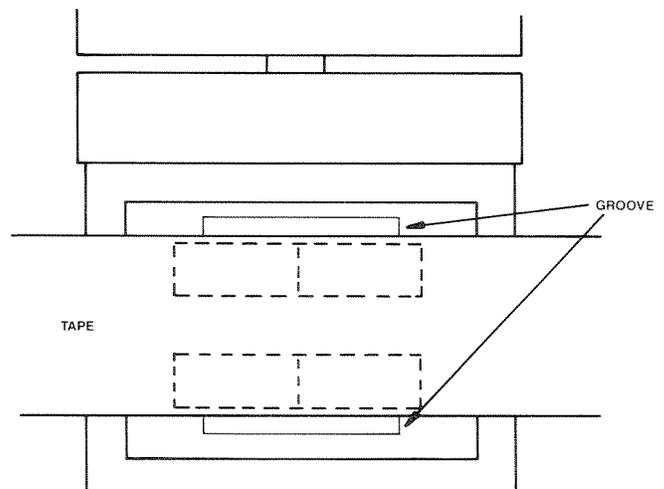
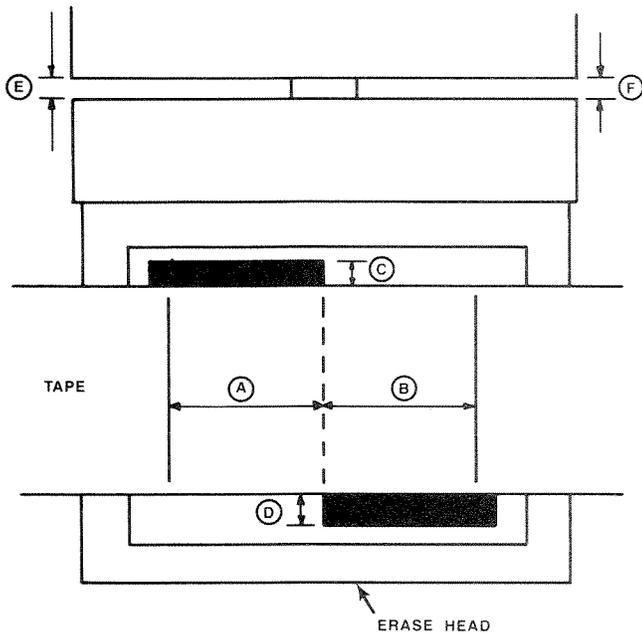

Figure 6-10. Repro or Sync Head Heights
Figure 6-11. Erase Head Adjustments
- STEP 27** Press **PLAY** and observe the head height. The tape must ride between the two grooves machined in the repro or sync head (see Figure 6-10, Repro or Sync Head Height) or equalize the distance ③ and ④ on the erase head (see Figure 6-11, Erase Head Adjustment). If it is not, repeat this procedure until both adjustment specifications have been satisfied.
Observe the tape movement across the heads. The tape should be centered between the two grooves which are machined into the surface of the head when checking the repro or sync head (see Figure 6-10). When adjusting the erase head make sure that the distance ③ is equal to the distance ④ in Figure 6-11. If adjustments are necessary refer to this procedure.